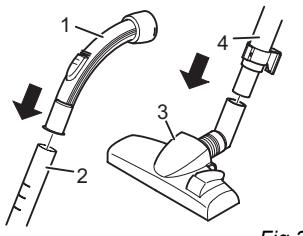
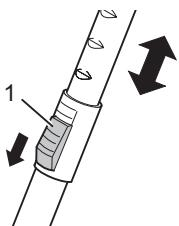

Fig.3
Fig.4
2. Push the handle (Fig. 3/1) into the upper end of the telescopic tube (Fig. 3/2).
3. Push the floor nozzle (Fig. 3/3) onto the lower end of the telescopic tube (Fig. 3/4).
4. Adjust the length of the telescopic tube. To do this, press the telescopic tube lock (Fig. 4/1) down. Then pull the telescopic tube by the handle (Fig. 3/1) to the desired length. To lock it, release the telescopic tube lock when you let go. You will hear an audible click.